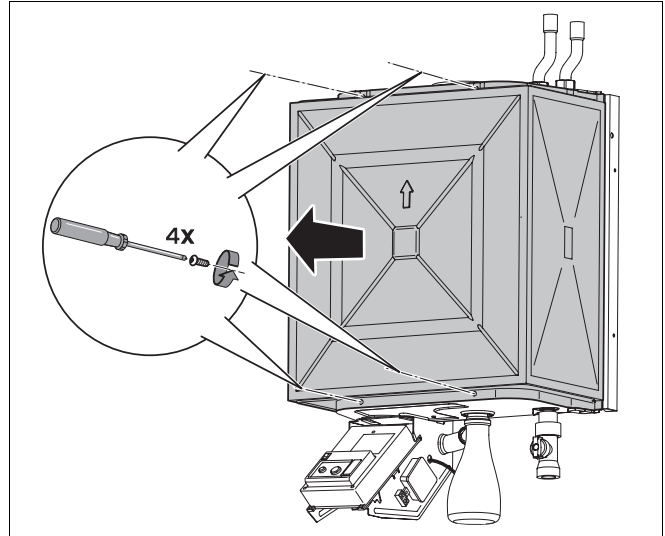

Fig. 59 Unscrew ventilation cover
- Loosen the 4 crosshead screws on the ventilation cover (fig. 59).